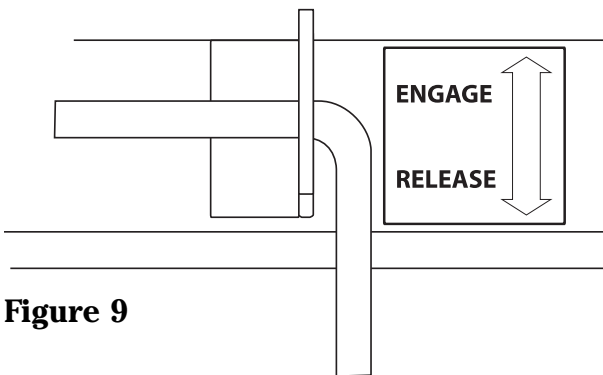

Figure 9
2. To release position mechanism, turn the handle to point down (See fig. 9).